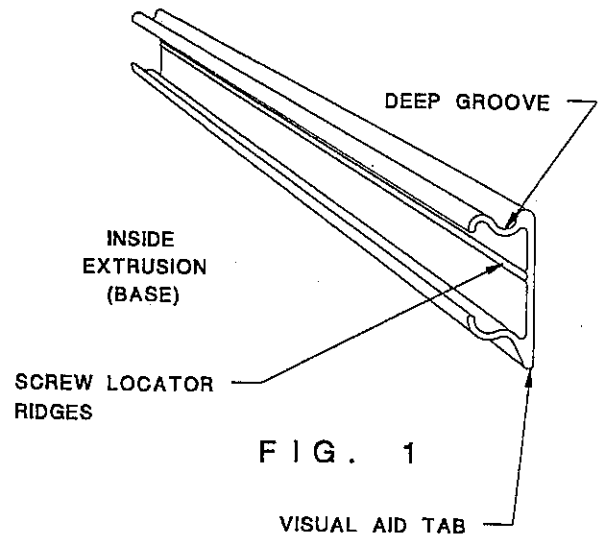

FIG. 1
## A. INSIDE EXTRUSION (SEE FIG. 1)
2. THE USE OF SELF-DRILLING SCREWS MAKES INSTALLATION OF THIS PIECE QUITE SIMPLE. IT CAN ALSO BE DRILLED AND ATTACHED WITH REGULAR SCREWS. PLACE SCREWS BETWEEN SCREW LOCATOR RIDGES. (SEE FIG. 1)